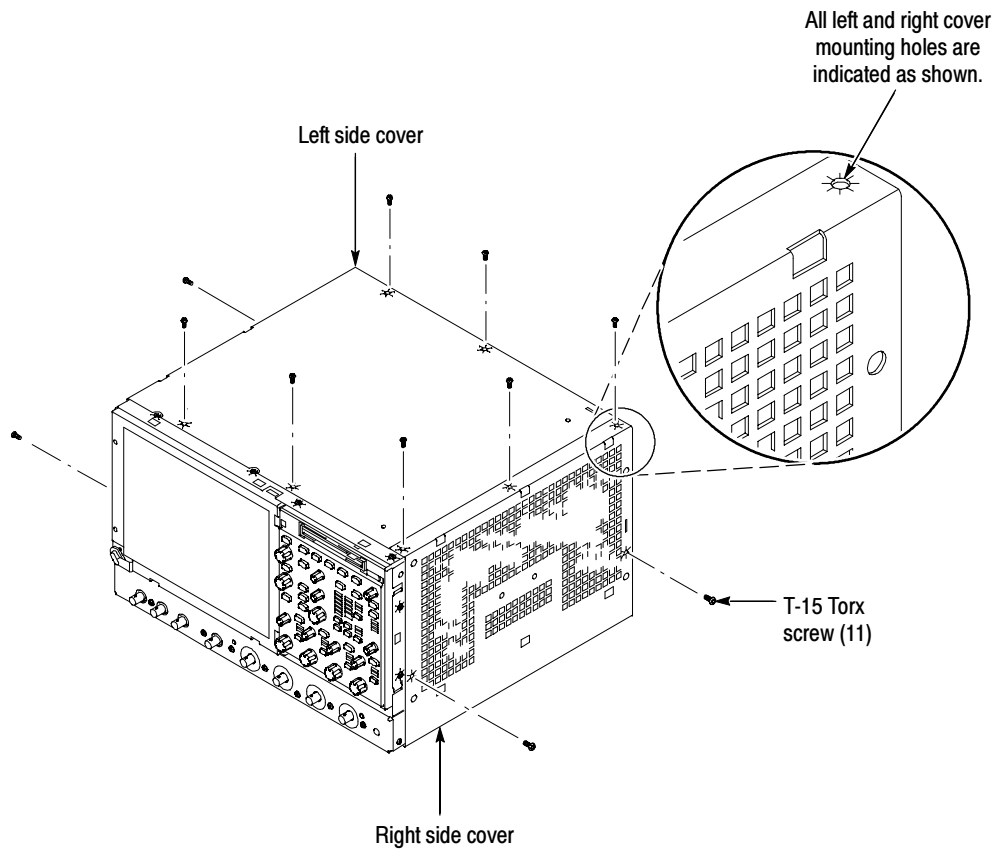

Figure 5: Cover removal
1. *Remove the left and right covers:* See Figures 5 and 6 on pages 12 and 13.